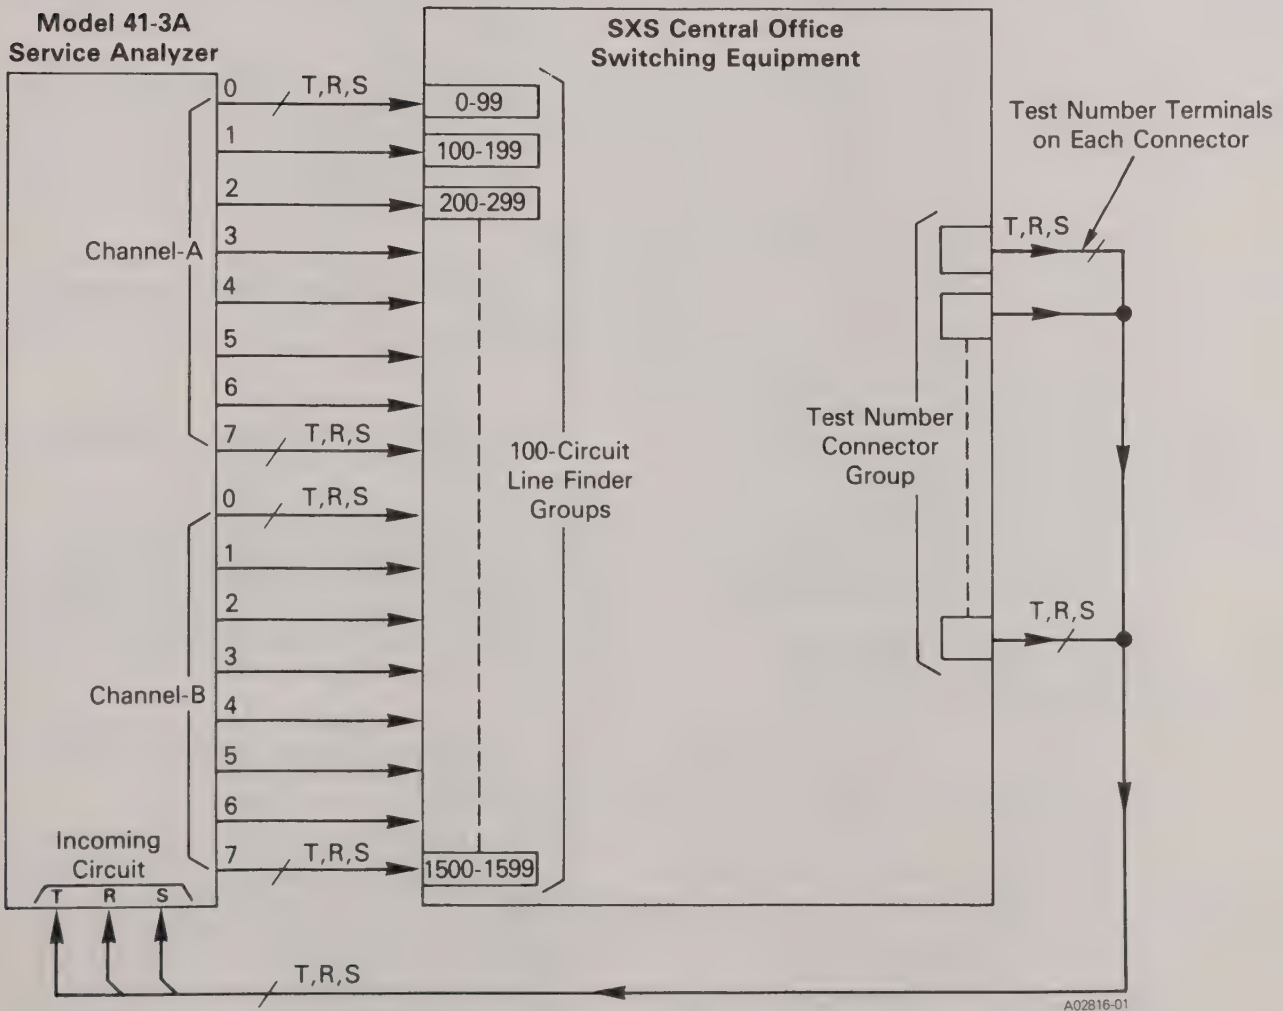

Fig. 14—Routing a 1600-Line SXS Office
3.54 The 41-3A can routine a SXS central office with up to 1600 lines without changing the installation. Fig. 14 shows the analyzer properly connected to telephone switching equipment to perform this task. As shown by Fig. 14, test calls are placed to the analyzer's built-in test line so regular office test lines can be used for other purposes.